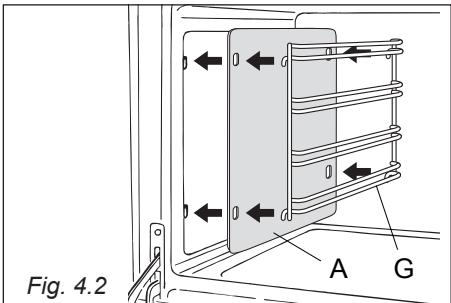

Fig. 4.2
- Hang up the wire racks "G" on the oven walls (fig. 4.2).
In the models with catalytic panels supplied: interpose the catalytic panels "A" (fig. 4.2).